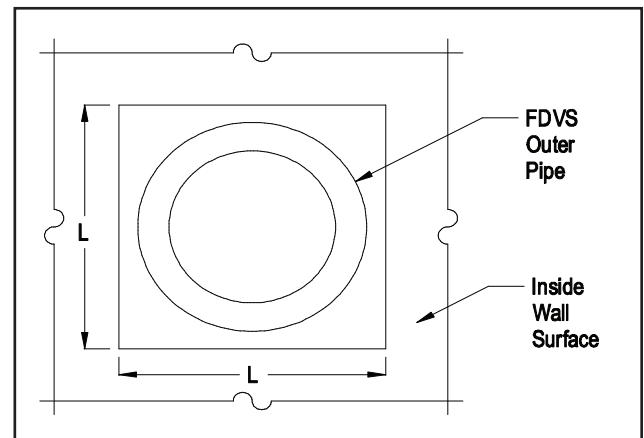
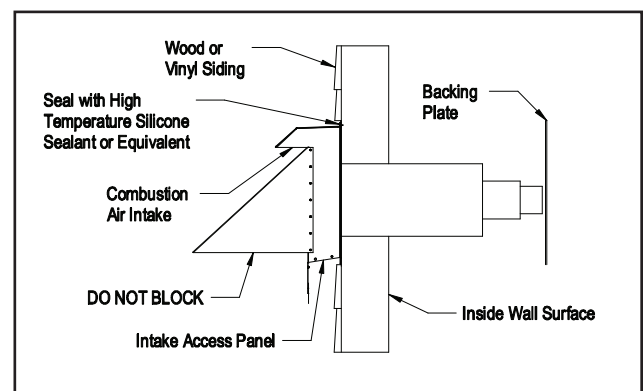

Figure 1. End View
Figure 2. Side View
In addition to all the pertinent information regarding Natural Draft Applications whenever a Mechanical Draft Application is used it should be installed using the following instructions and Figures 2 and 3 (on pages 4 and 5) as reference.
- After determining the location of the venting system termination (See Diagram A), cut a hole in the wall sized according to "L" dimension in Table 1. (See Figure 1)
- Seal the back side of the base plate around the outer pipe of the vent termination with a bead of high temperature silicone sealant. (See Figure 2) Mount the vent termination through the wall, keeping the outer pipe centered in the hole. (See Figure 1) Fasten the vent termination to the outside wall with appropriate fasteners. Seal the edges of the vent termination base plate to the wall with a high-temperature silicone sealant.
- Mount the backing plate over the outer pipe. Fasten the backing plate to the inside wall with appropriate fasteners. (See Figure 2) DO NOT BLOCK the intake or exhaust openings, or the intake access panel on the vent termination body. Wood or vinyl siding should be cut so that the unit mounts directly on the wallboard to provide a stable support. If the siding is greater than 1/2" thick use a spacer plate or board behind the vent termination mounting plate. (See Figure 2)
Inspect all vent connections annually for looseness, evidence of corrosion, or flue gas leakage. Replace, seal, or tighten pipe connections if necessary. As part of the yearly maintenance schedule, remove the Intake Access Panel on the exterior of the FDVS vent termination (See Figure 2) and remove any debris or foreign material. Be sure to properly replace the panel.